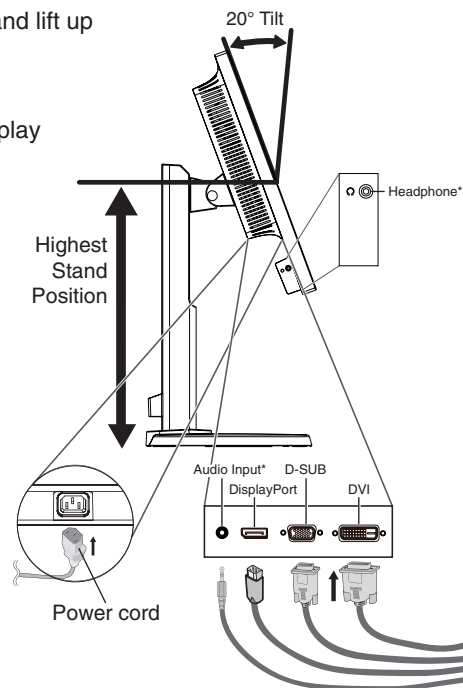

Figure C.1
4. Connect all cables to the appropriate connectors (**Figure C.1**).